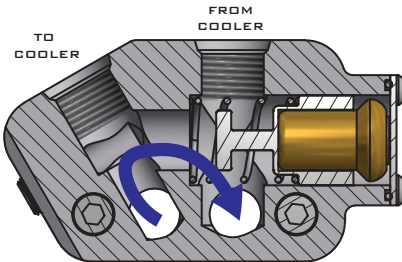

Figure 2 - Oil Path During Engine Warm-Up
1. The thermostat bypasses the oil cooler until the oil temperature reaches 180°F (EGM-112-T4) or 212°F (EGM-112-T7), shown in Figure 2.